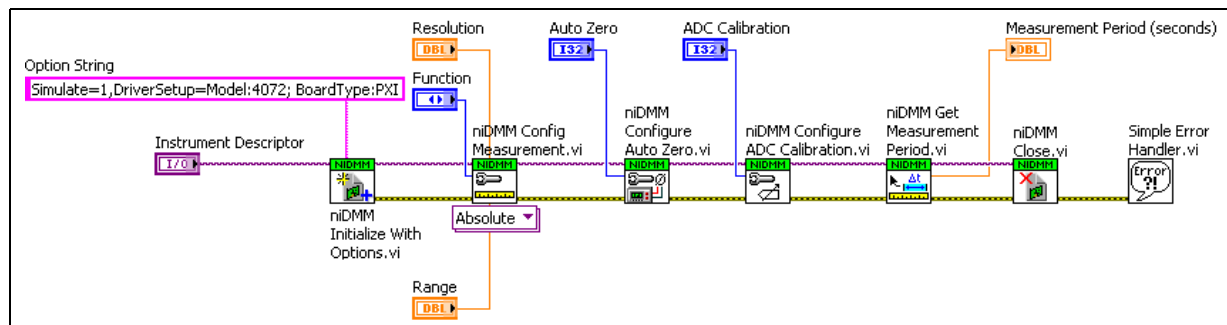

Figure 3-2. Simple Single Point Benchmark VI Block Diagram
3. Modify the block diagram to benchmark a simulated NI PXI-4072 as shown in Figure 3-2 using the following items:
4. Complete wiring the block diagram as shown in Figure 3-2.